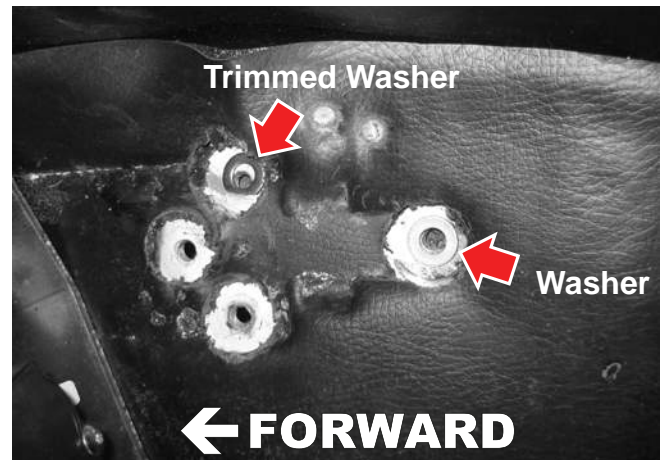

Figure 4-5
- Place the trimmed washer (S5000011-001) concentric with front right hole (see Figure 4-5).
- Align washer (8003812) with the rear mounting hole (see Figure 4-5).